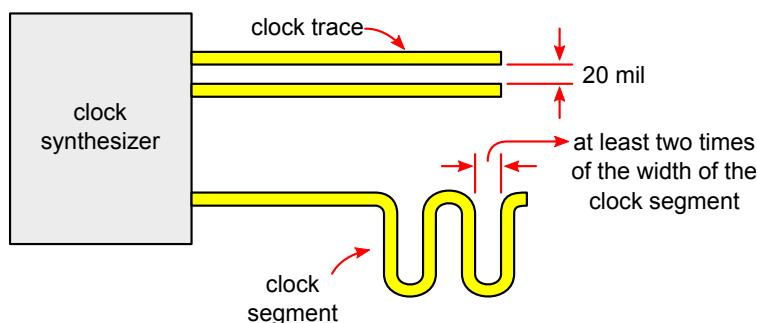

Figure 7: Suggested clock trace spacing
- The minimum space between one clock trace and adjacent clock traces is 20 mil. The minimum space from one segment of a clock trace to other segments of the same clock trace is at least two times of the clock width. That is, more space is needed from one clock trace to others or its own trace to avoid signal coupling (see Figure 7).